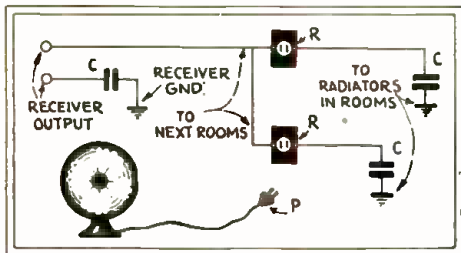

Fig. 2
**A** SIMPLE and economical method of wiring every room for a radio speaker, illustrated here, obviates drilling holes through the ceiling or floor; because one wire may be taken upstairs or downstairs from the outside of the building. I have used the idea quite successfully in making such installations in my neighborhood, and they are working quite well. The arrangement shown lessens losses caused by the use of two wires. (Fig. 2)
The reason adapters or wiring changes are necessary to test pentode circuits is that the elements of the tube are connected to the tube-base prongs in a way differing from standard practice. Fig. 1 shows the connections of a '27-type tube to its five-prong or UY tube base; proper identification is made when the prongs of the tube are pointing towards you. Fig. 2 shows the arrangement of the tube prongs on a '47 pentode's base, also with prongs pointing towards you.